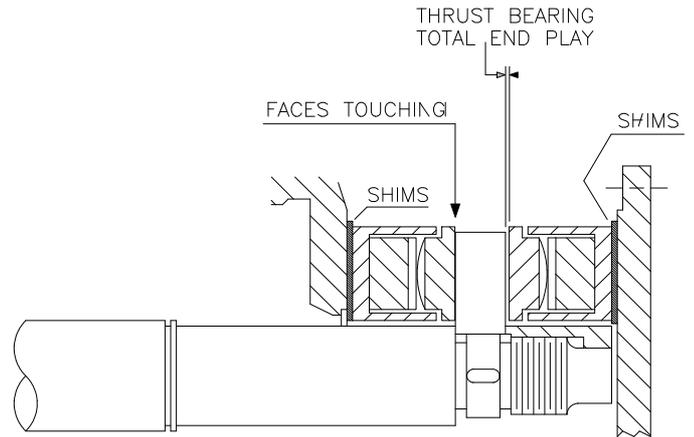

Figure 6.6
- j) Check that rotor is axially centralized, and establish total thrust end play, (about 0.28 mm) by using shim or machining at inner face of thrust bearing cover. See Fig. 6.6